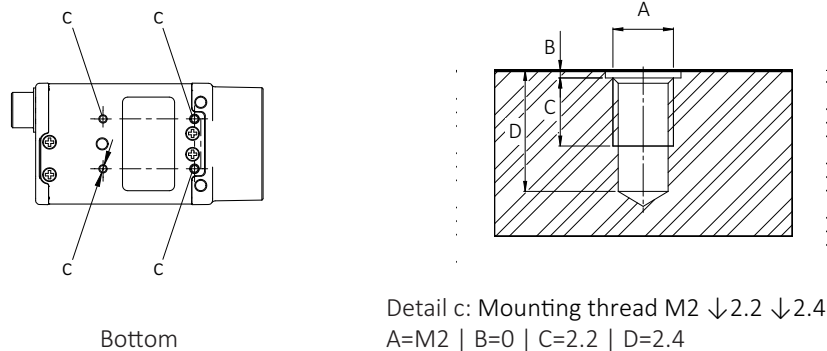

Figure 62: M2 bottom mounting threads (c)
1. Mount the camera to the base using suitable M2 screws at 0.22 Nm maximum torque for a thread engagement (C) of 2.2 mm between screws and mounting threads, see Figure 62.